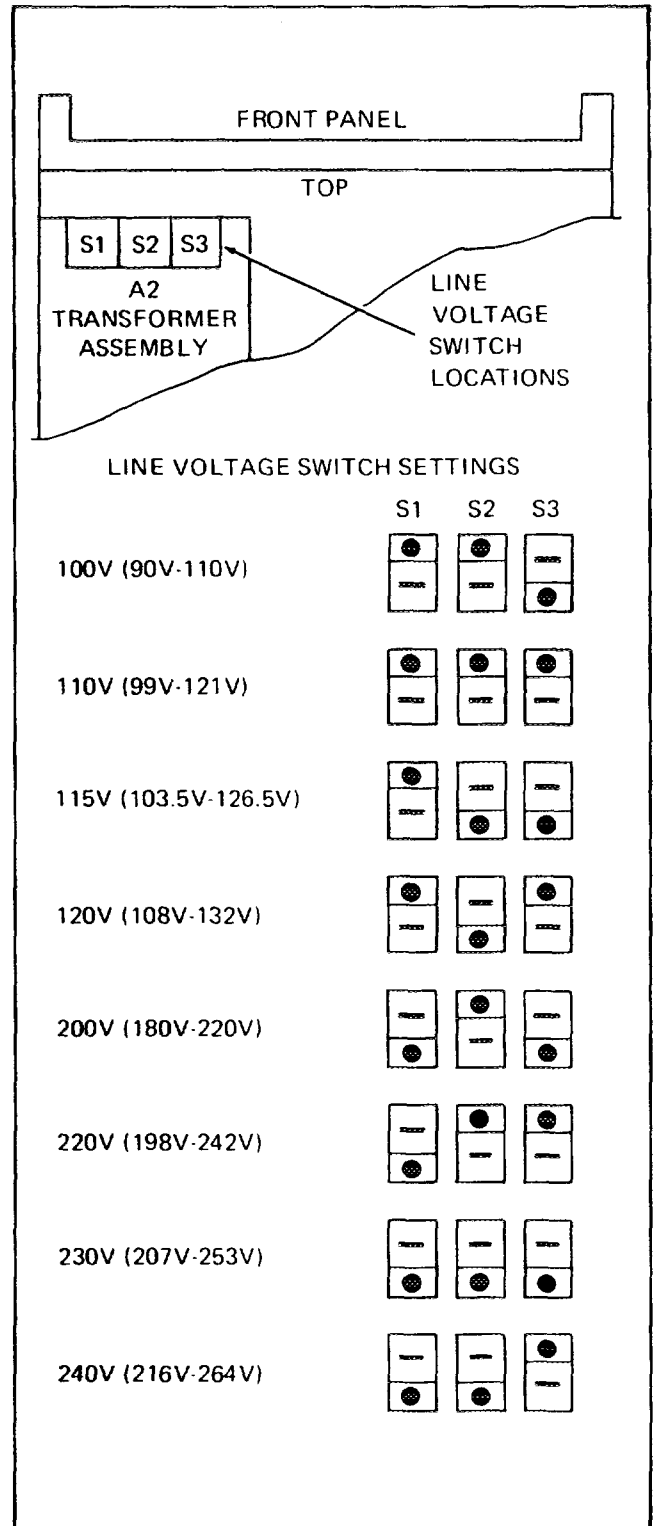

Figure 4-2. Line Voltage Selection
4-34. The 5220A is set at the factory to operate at a line voltage of either 115 or 230V ac $\pm 10\%$, 40 to 60 Hz. The selected voltage is identified on a rear panel decal. If your local line voltage is not within this preset range, a suitable range may be selected by setting a series of three switches (S1, S2, S3) on the A2 Transformer Assembly. Figure 4-2 shows the switch locations as well as the switch settings for eight different line voltages. Use the following procedure to set the line voltage switches:
3. With reference to Figure 4-2, locate and set switches S1, S2, and S3 to the positions indicated for the desired line voltage.